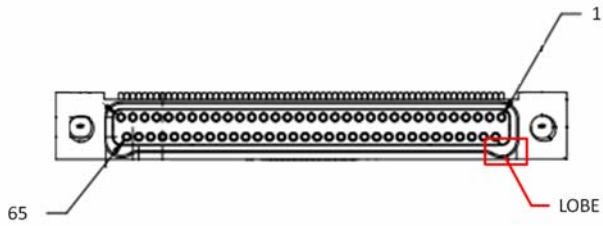

Figure 4. Omnetics A29100-065 connector jack as viewed with the ENS top side up. Pin 65 (labeled) is the Ref line.
- For sensing applications using a common reference, connect all "Ref" lines from each Omnetics connection jack (A-D) (Figure 4) that is in use and connect the combined signal to the reference input on the jackbox. All Omnetics connection jacks used must have the Ref lines connected for sensing to function as designed.